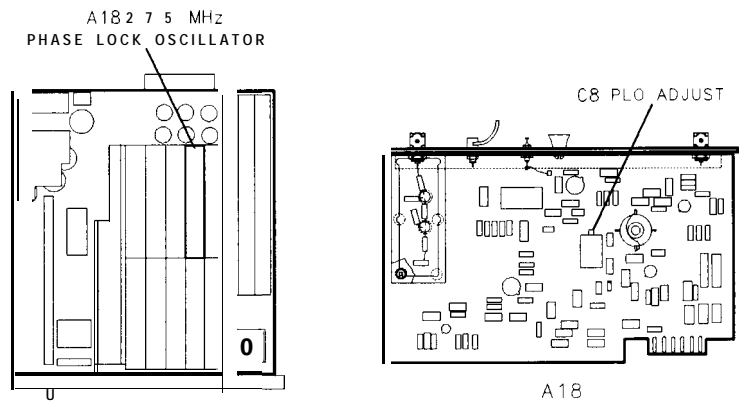

Figure 3-62. Location of 275 MHz PLO Adjustment
6. Adjust A18 PLO ADJUST A18C8 for DVM indication of +6.5 V dc \pm 0.5 V dc. See Figure 3-62 for location of adjustment.